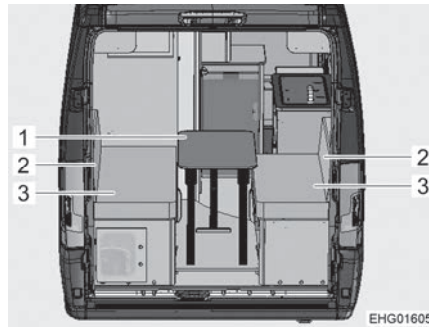

Fig. 83 Prior to conversion
- Fold down the folding table (Fig. 83,1) and place to one side or push into the storage compartment under the pedestal.
- Remove both back cushions (Fig. 83,2). The back cushions each consist of 2 segments (a cushion and a wedge). The cushion is used to form the bed; the wedge can optionally be used to elevate the head.
- Remove both seat cushions (Fig. 83,3).